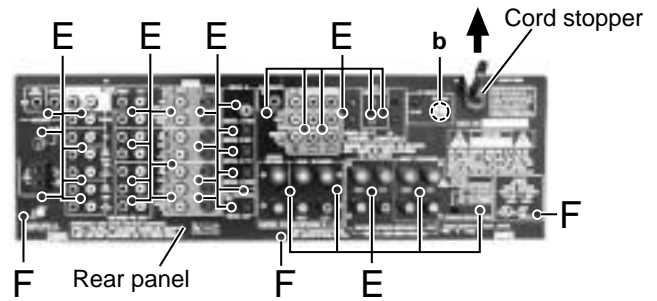

Fig.5
■ Removing the rear panel (See Fig.5)